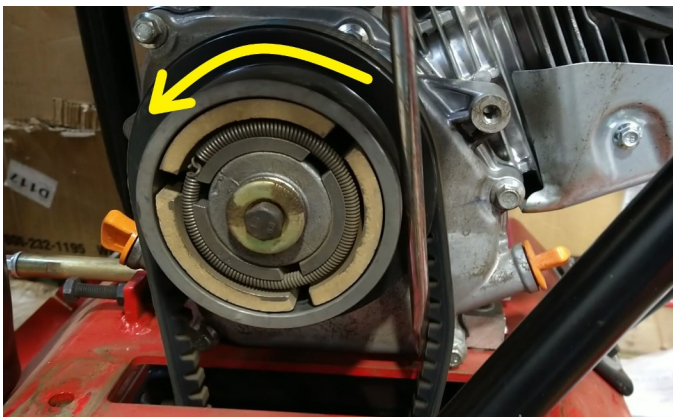

Fig. 4: Removing the belt (1).
4. With the screwdriver shaft positioned on the outside of the clutch, position the tip under the belt, and lever the belt off the clutch while turning the clutch counterclockwise (Figs. 4 & 5).
26. Reposition the engine assembly and support plate on the shock absorbers. Thread the belt through the slot in the support plate. Tip the engine assembly up and install the belt on the clutch pulley (see Fig. 4). Tip the assembly down and use a socket or wrench to tighten the lock nuts removed in step 6.